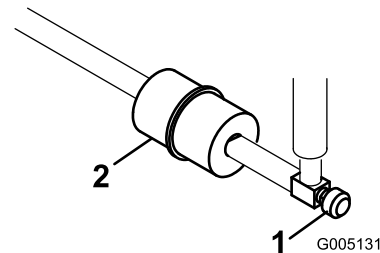

Figure 31
The in-line fuel filter is in the fuel line between the fuel tank and carburetor (Figure 31).
- Close the fuel-shutoff valve (Figure 31).
- Place a drain pan under the filter, loosen the hose clamp on the carburetor side of filter, and remove the fuel line from the filter (Figure 31).
- Loosen the other hose clamp and remove the filter (Figure 31).